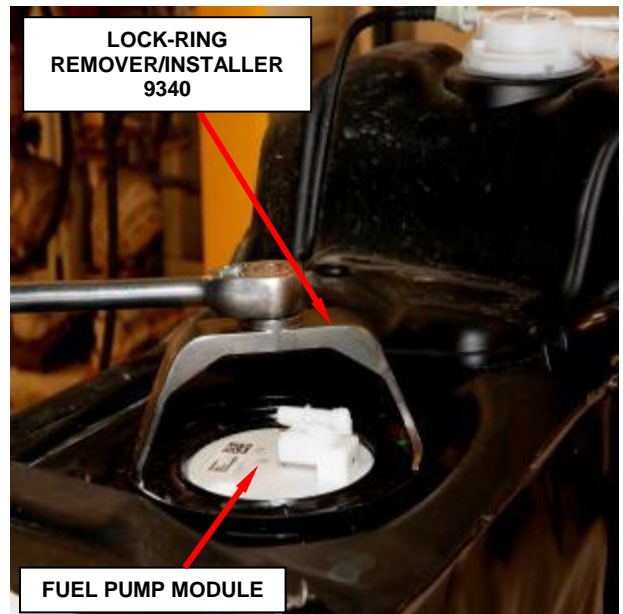

Figure 8 Lock Ring Removal
- a. Position the lock-ring remover/installer 9340 into the notches on the outside edge of the lock-ring (Figure 8).